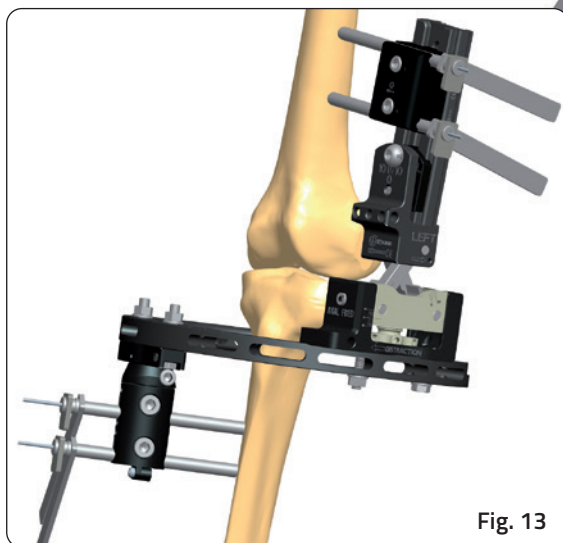

Fig. 13
- Remove the reference wire (Fig. 13).